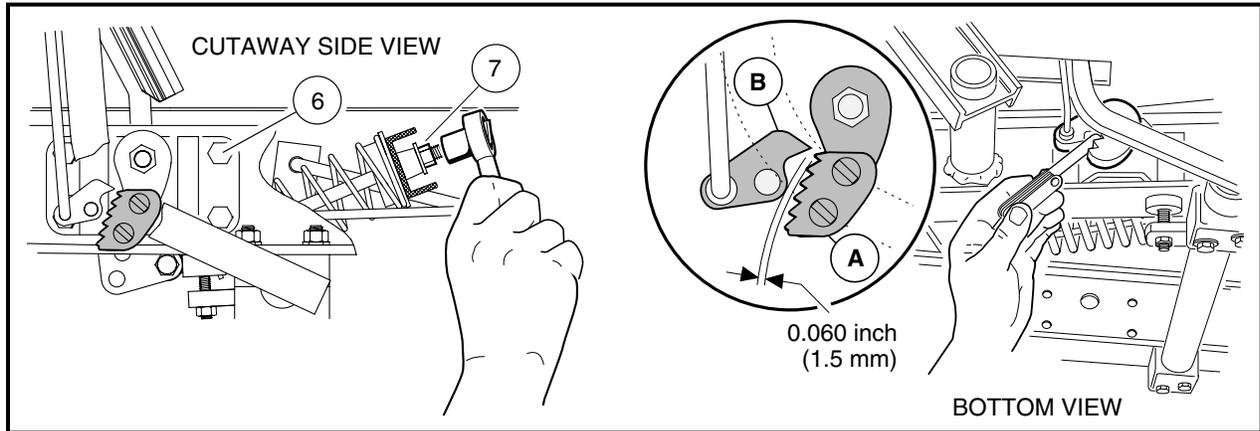

Figure 5-37 Park Brake Ratchet/Pawl Gap Adjustment
- 4.2. Adjust retaining nut (7) on spring support rod until there is a 0.060 inch (1.5 mm) gap between the pawl and the tips of the ratchet teeth. Use a feeler gauge to verify the gap (**Figure 5-37, Page 5-23**). The gap should be consistent through range of pawl movement. If the gap is not consistent, loosen the four bolts (6) securing the accelerator pivot rod supports and adjust the supports. If the gap becomes smaller as the park brake pedal is pressed, move the pivot rod supports slightly rearward until the gap is consistent. If the gap becomes larger as the park brake pedal is pressed, move the pivot rod supports slightly forward until gap is consistent.